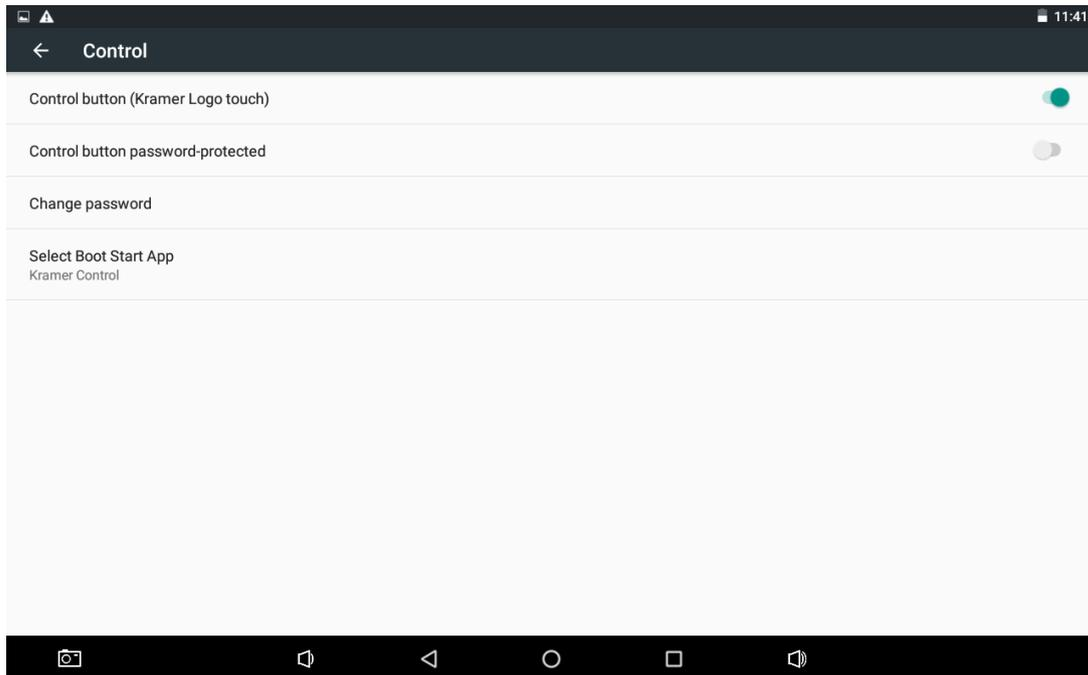

Figure 33: Control Button Activation
3. Click **Control button password protected** to enable or disable this feature (see Figure 33).